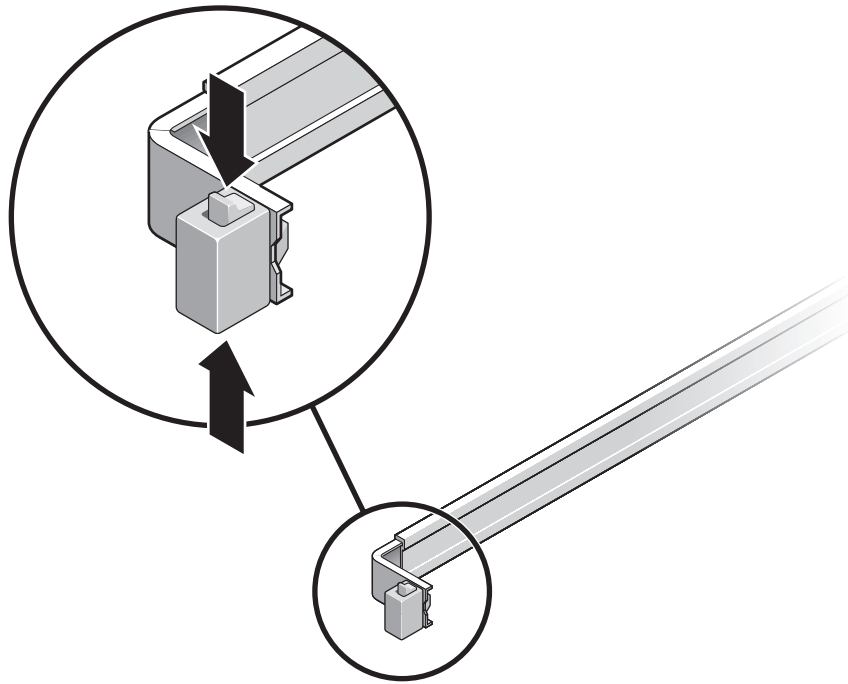

FIGURE 2-12 Unlocking the Slide Rail Assembly
2. Unlock the slide lock buttons (FIGURE 2-12) at the right and lefts sides of the chassis, and slowly pull the server out of the rack until the slide rails reach their stops.